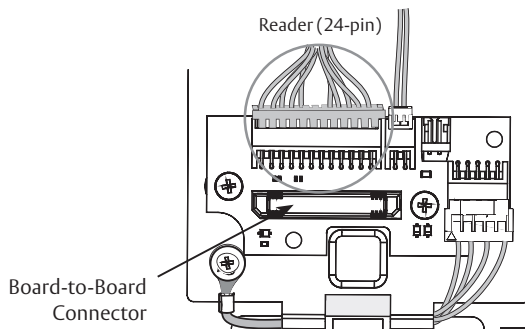

Figure 29
4. Secure 24-pin card reader connector. (Figure 29)